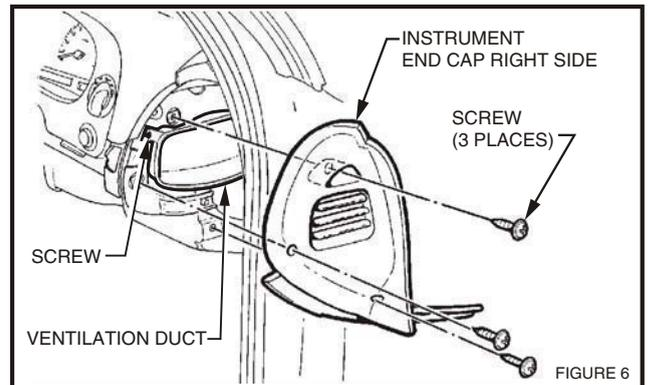

FIGURE 6
10. Remove 3 screws securing instrument end cap and remove end cap, refer fig. 6.
- 19. Remove 2 screws securing ventilation ducts, refer figs. 6 and 12, and remove ducts.